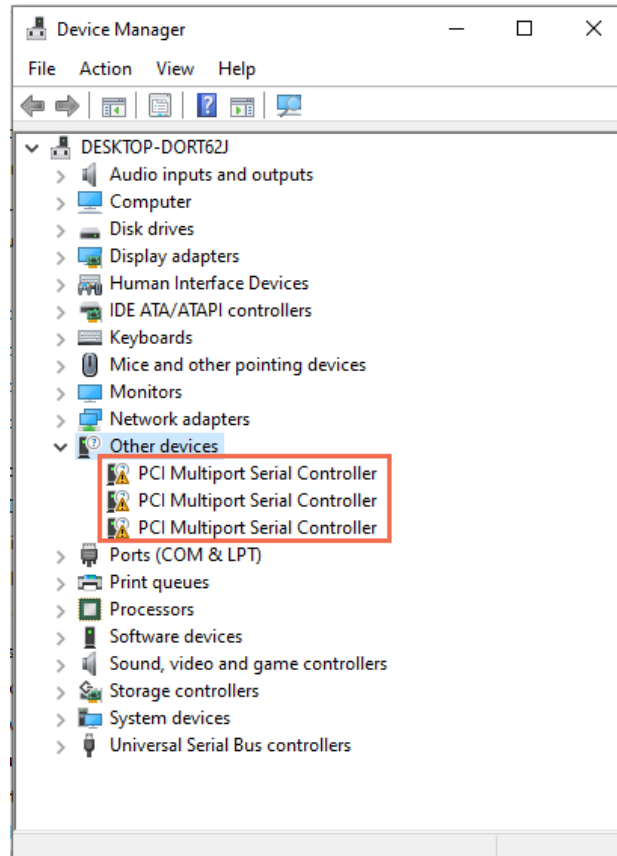

Figure 5.36. Device Manager
1. Open **Device Manager**, which shows the connected PCIe devices, as shown in Figure 5.36.